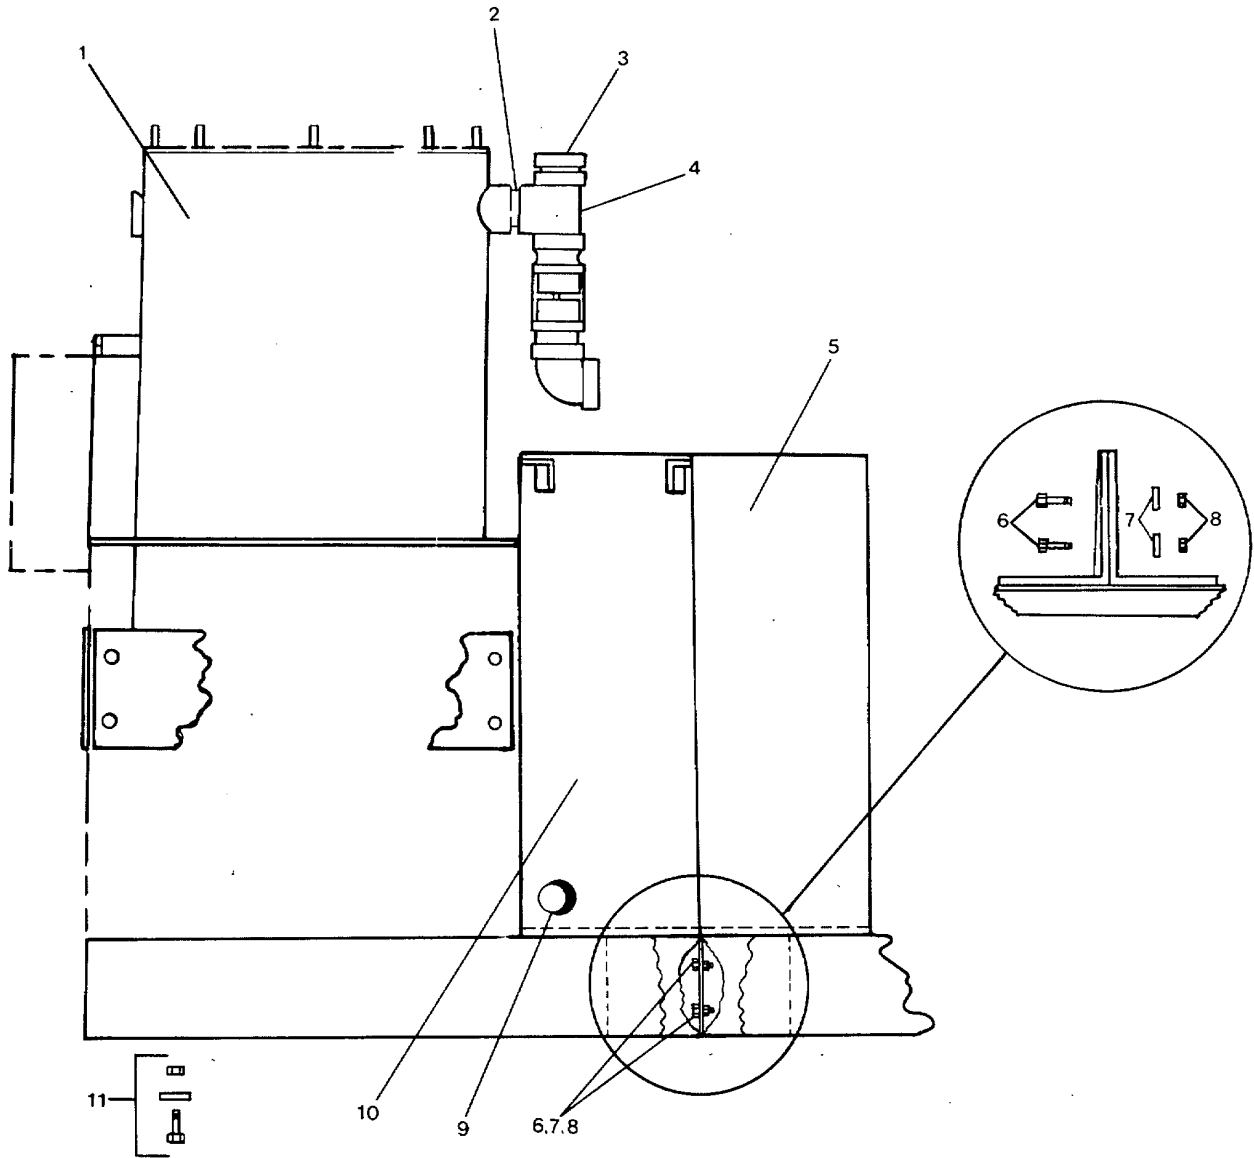
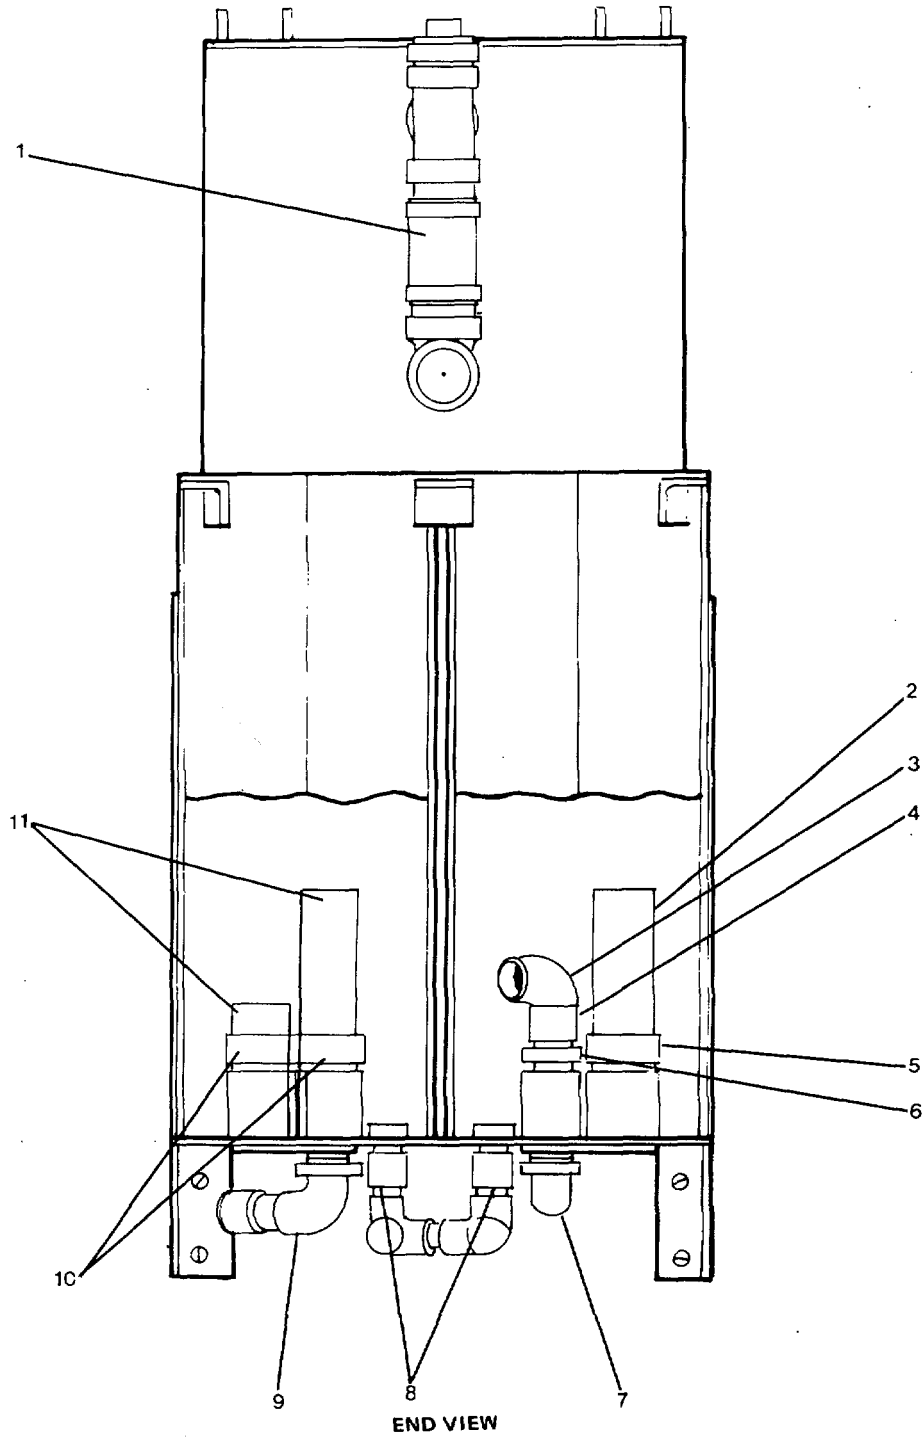

Figure 2-11. Sewage Treatment and Sediment Tank Subassembly.
Figure 2-12. Treatment and Sediment Tank Piping/Connections.
- a. Remove the anode/plug (9, FIGURE 2-11) and drain the sediment modules to their lowest level into a portable container for disposal.
- c. Disconnect all piping/fittings from the underside of the end sediment tank assembly (8, 9, 10, FIGURE 2-12).
- d. Disconnect adapters (6, 7, 11, FIGURE 2-12) from inside of the sediment tanks to remove fittings (3, 4, 5, 12).
- e. Remove the bolts, washers, and nuts (6, 7, 8, FIGURE 2-11) on the inside the framework base on each side of the unit to detach the end sediment tank assembly.
- f. Remove the mounting bolts, nuts, and washers (11, FIGURE 2-11) holding the assembly to its mounting foundation.
- g. Remove the end sediment tank assembly (5).
- h. Disconnect the vent piping by unscrewing at point (3) and disconnect the adapter (2) to remove the vent section (4) from the main treatment tank (1).
- i. Disconnect the two hose clamps (2, FIGURE 2-12) to remove the flexible coupling (1).
- a. Replace adapters (6, 7, 11, FIGURE 2-12) and fittings (3, 4, 5, 12) in both sediment tank sections (end and mid) if cracked or broken.
- b. Replace the PVC fittings (8, 9, 10, FIGURE 2-12) on both sediment tank sections (end and mid) if cracked or broken.
- c. Replace the flexible coupling (1, FIGURE 2-12) on the vent section if cracked or deteriorated.
- d. Check the corrosion preventative anode/plug (9, FIGURE 2-11) to see how much zinc has been given up to electrolysis.
- (1) The anode part of a new plug measures 2 in (length) by 0.750 in (diameter).
- (2) Replace the anode if it has deteriorated to one half or more of its original diameter.
- a. Replace the vent section (4, FIGURE 2-11) as follows:
- (1) Glue any joint that requires gluing with PVC cement glue. Clean each joint with PVC solvent/cleaner before gluing.
- (2) Apply Teflon pipe thread lubricant to threaded adapter (2, FIGURE 2-11) and install.
- (3) Join the vent section with the flexible coupling (1, FIGURE 2-12). Tighten the clamps on the coupling to 40 inch-pounds.
- (4) Connect the external vent pipe at point (3, FIGURE 2-11) on the treatment tank (1). Clean the connection and apply Teflon thread lubricant when connecting.
- b. Place the end sediment tank assembly tank assembly (5, FIGURE 2-11) in position on the mounting foundation and install the bolts, washers, and nuts (6, 7, 8) to connect the assembly to the main unit. Do not tighten the bolts and nuts until the foundation mounting bolts are aligned and installed.
- c. Install the foundation mounting bolts, washers, and nuts (11, FIGURE 2-11).
- e. Connect the piping and fitting (8, 9, 10, FIGURE 2-12) to the underside of the assembly. When gluing is required, follow the instructions given in a.(1)(a) of this procedure.
- g. Apply Teflon lubricant to the threads and install the anode/plug (9, FIGURE 2-11) in tank (10). Tighten until snug.